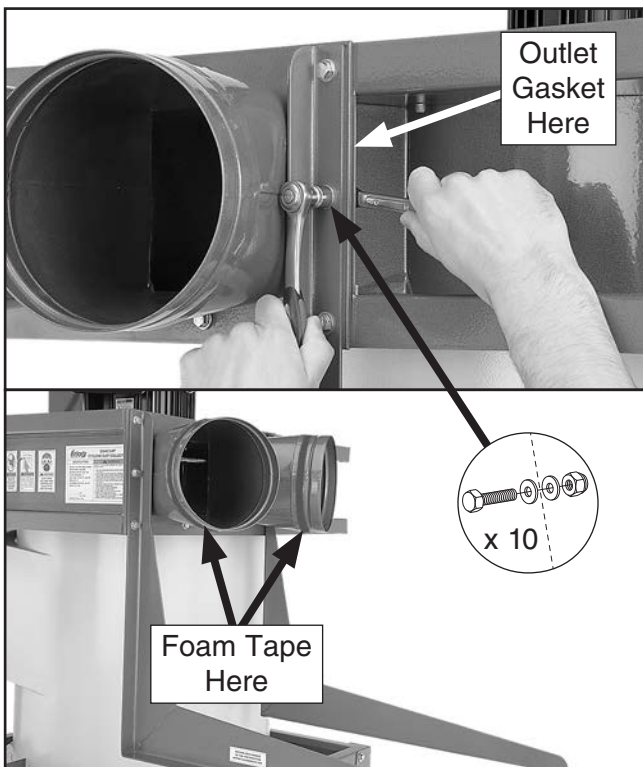

Figure 21. Attaching the outlet ports and filter L-braces to the blower housing.
15. Place the outlet gasket between the motor/blower housing and outlet port, then attach the outlet port and filter L-braces to the housing, as shown in **Figure 21**, using (10) $\frac{5}{16}$ "-18 x 1" hex bolts, (20) $\frac{5}{16}$ " flat washers, and (10) $\frac{5}{16}$ "-18 hex nuts.
16. Attach one roll of 3 x 15 x 700mm foam tape to the outside lip of each outlet port, as shown in **Figure 21**.